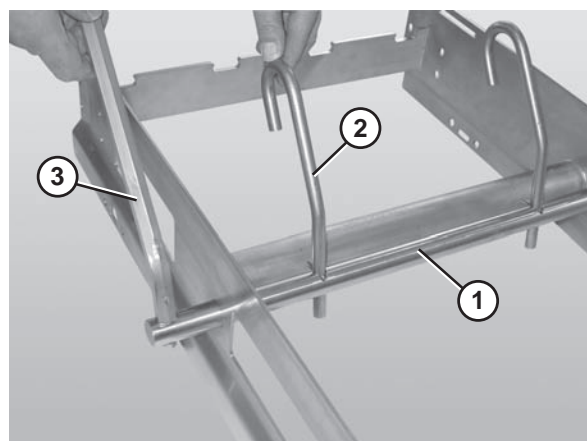

Figure 26
1. Slide the belt lift pivot bar (Figure 26, item 1) through the designated holes in the frame.
2. Attach the lifter bars (Figure 26, item 2) to the belt lift pivot bar (Figure 26, item 1). Make sure the hooked ends of the lifter bars are facing down when resting against the frame.
3. Attach the lifter handle (Figure 26, item 3) to the belt lift pivot rod.